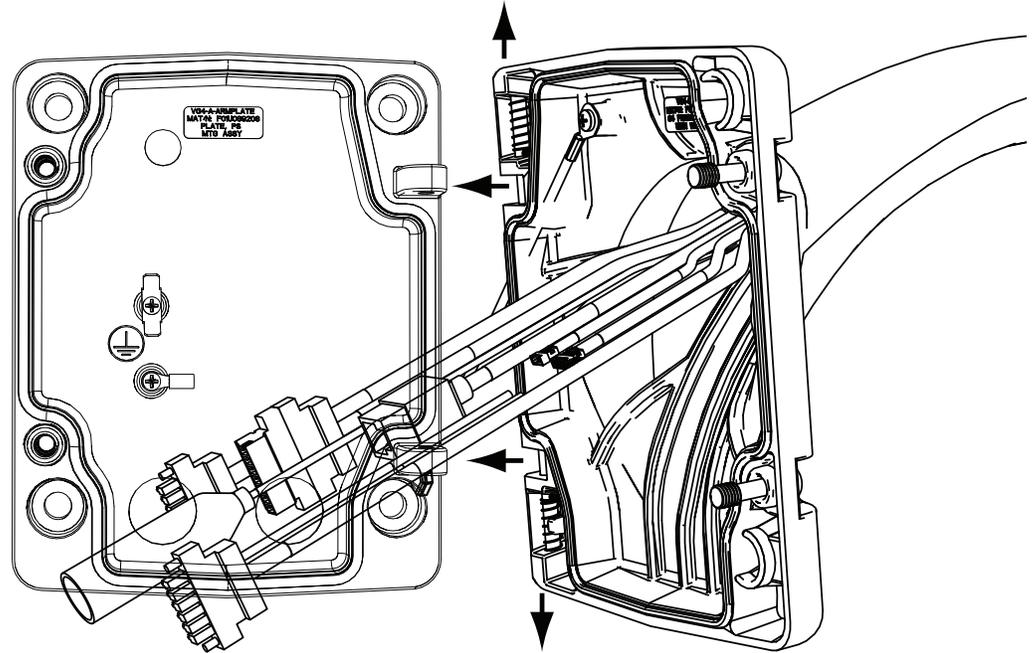

Figure 1.2 Connect Pendant Arm to Mounting Plate
3. While continuing to hold the top hinge pin open, align the top and bottom hinges of the Pendant Arm to their mating points on the Mounting Plate. See *Figure 1.2*, above, for an illustration.